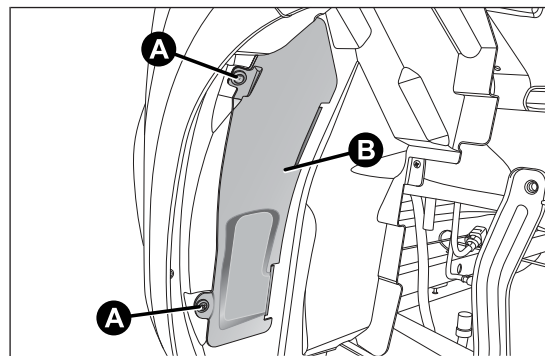

fig. 130
- ☐ adjust the screws A fig. 130 and remove the flap B;